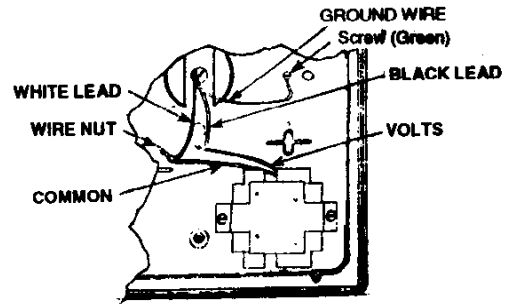

FIGURE 2
9. Connections to field wires and grounding of fixture must be done in accordance with applicable local and national codes and the wiring diagram shown in Figure 2. Attach around wire to green screw located to the right to the right